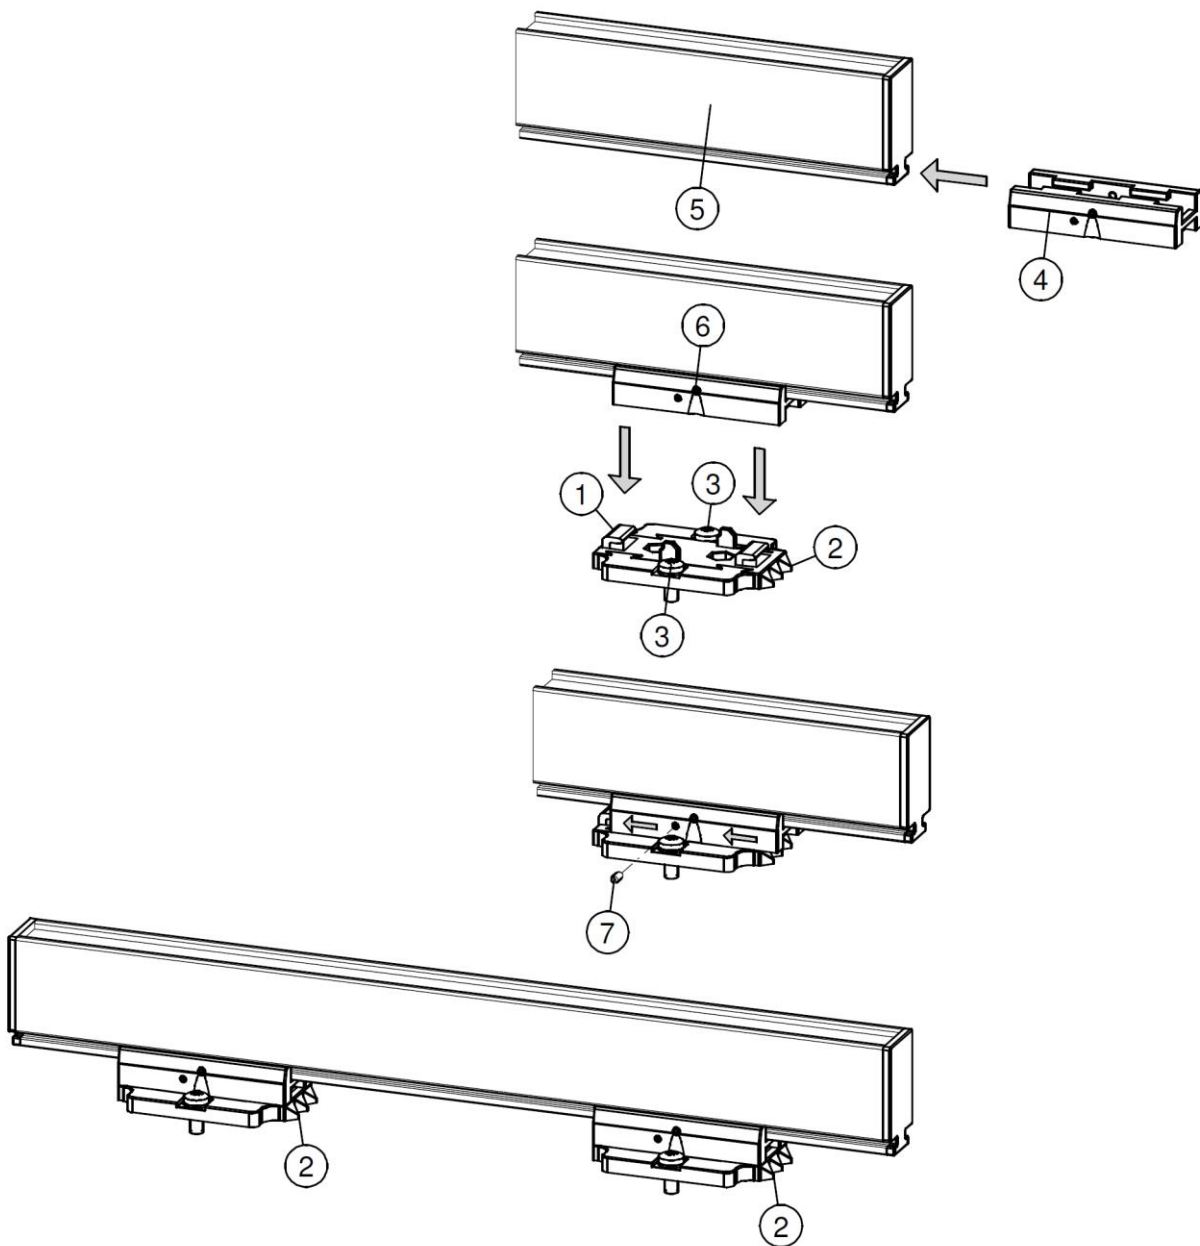

Figure 8: Fixing Sensor with mounting brackets
- Unscrew the adjusting screws (nr. 7) from the brackets (see figure 8).